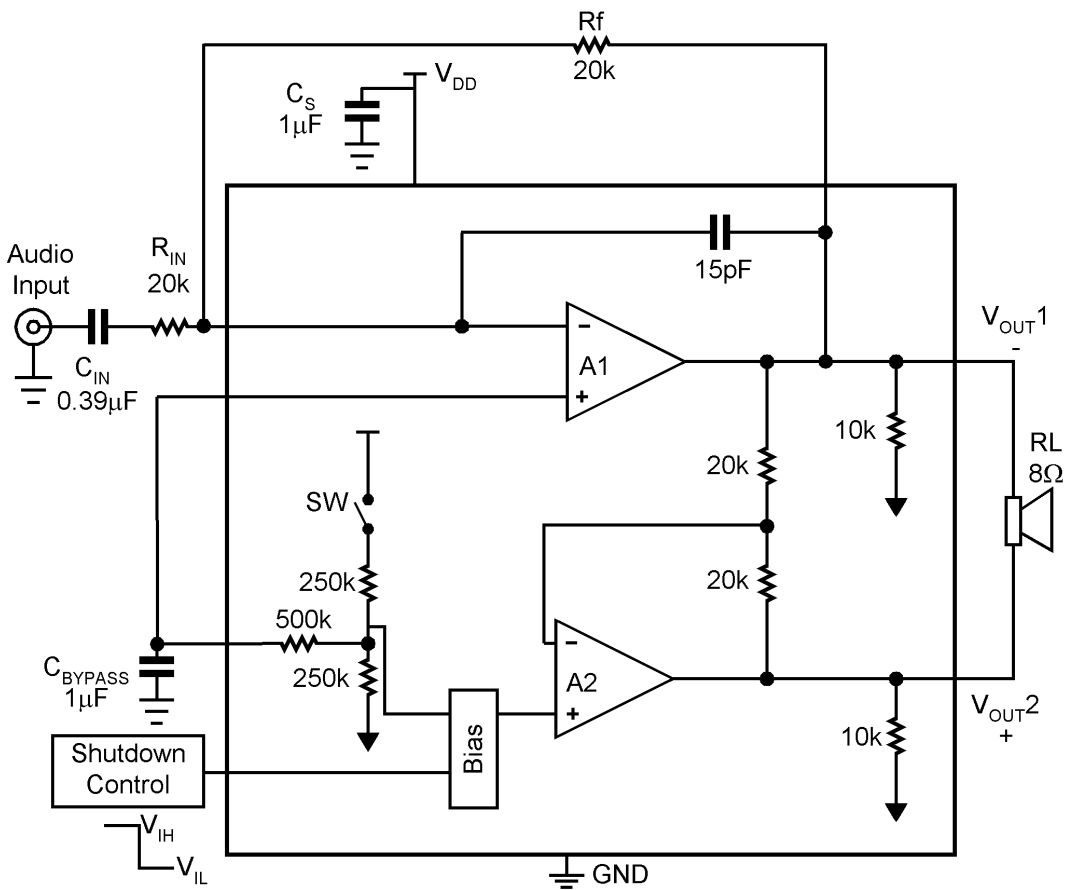

FIGURE 1. Typical Audio Amplifier Application Circuit
■ PSRR at 217Hz, $V_{DD} = 5V$ (Fig. 1)	62dB(typ.)
The following specifications apply for the circuit shown in Figure 1 unless otherwise specified. Limits apply for $T_A = 25^\circ\text{C}$.
The following specifications apply for the circuit shown in Figure 1 unless otherwise specified. Limits apply for $T_A = 25^\circ C$. (Continued)
The following specifications apply for the circuit shown in Figure 1 unless otherwise specified. Limits apply for $T_A = 25^\circ C$.
Note 14: PSRR is a function of system gain. Specifications apply to the circuit in Figure 1 where $A_V = 2$. Higher system gains will reduce PSRR value by the amount of gain increase. A system gain of 10 represents a gain increase of 14dB. PSRR will be reduced by 14dB and applies to all operating voltages.
External Components Description *(Figure 1)*